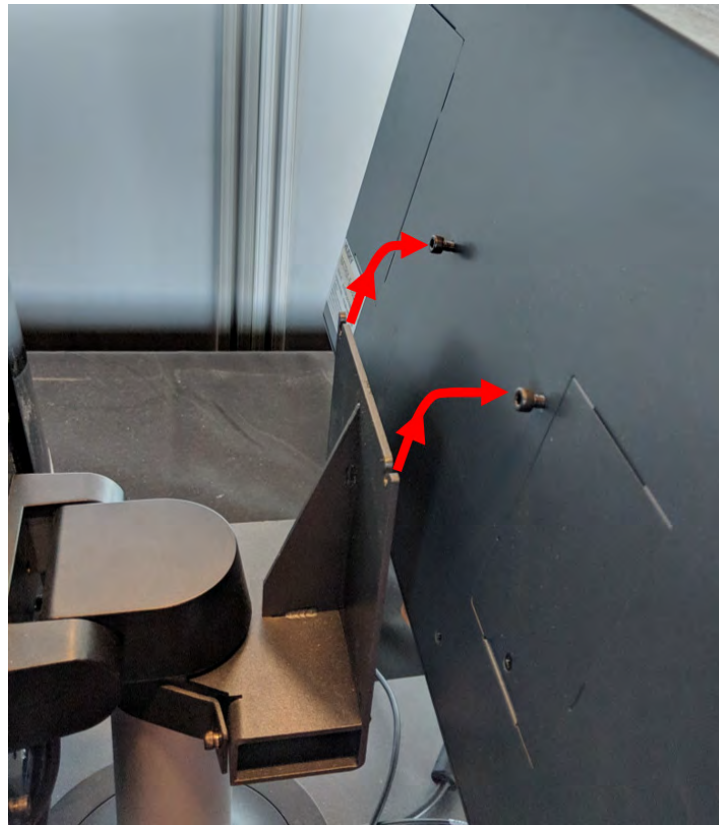

Figure 16-19 Remove the MCU from the Bracket
7. Securely hold the MCU and slide it up until the screws have cleared the upper mounting slots and pull forward to remove the MCU from the mounting bracket. Refer to Figure 16-19.